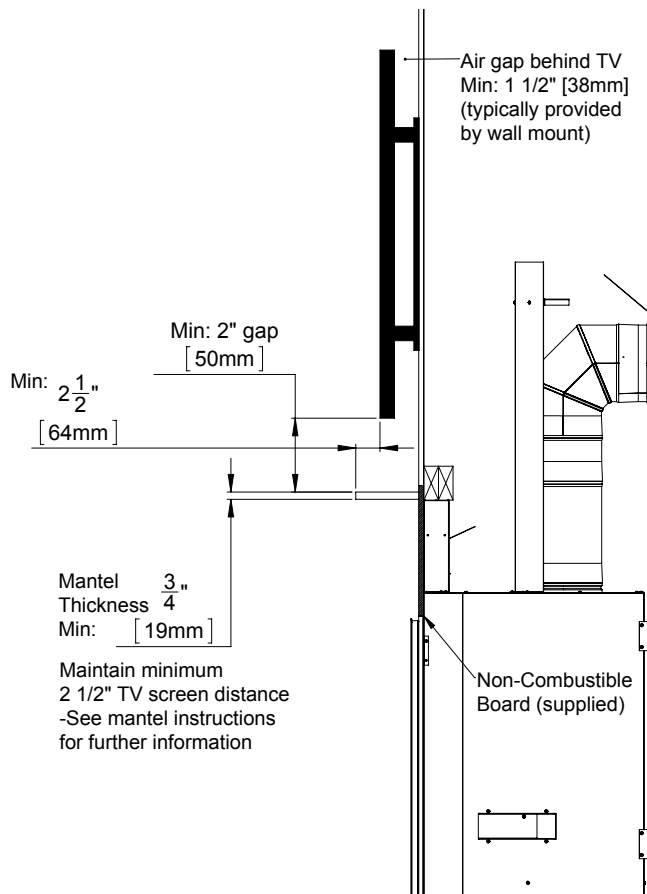

Figure 56. Minimum TV Install
**Mantel Only Installaton:** Always maintain minimum clearances (see Figure 56). The total depth of the TV including the wall mount will determine the minimum allowable mantel depth.